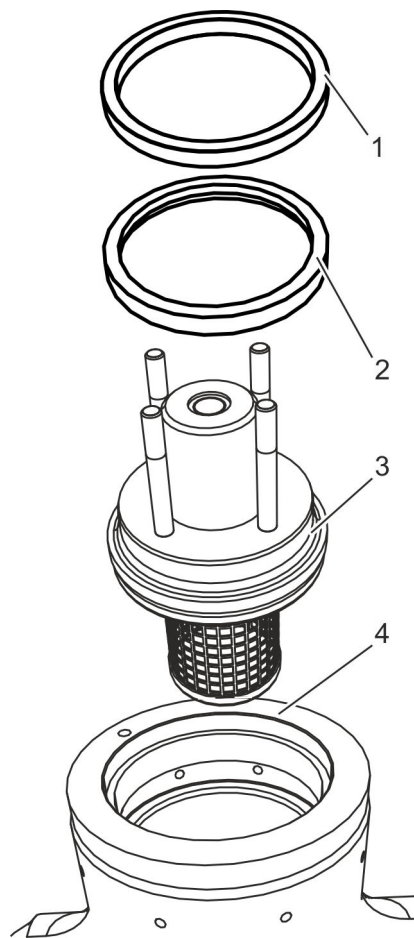

Fig. 20: Inserting cover
With a suitable hoist, insert the cover (Fig. 20/3) into the body (Fig. 20/4).
12.▶ Mount the new gasket ring (Fig. 20/2).
13.▶ Place the support ring (Fig. 20/1) on the gasket ring (Fig. 20/2).